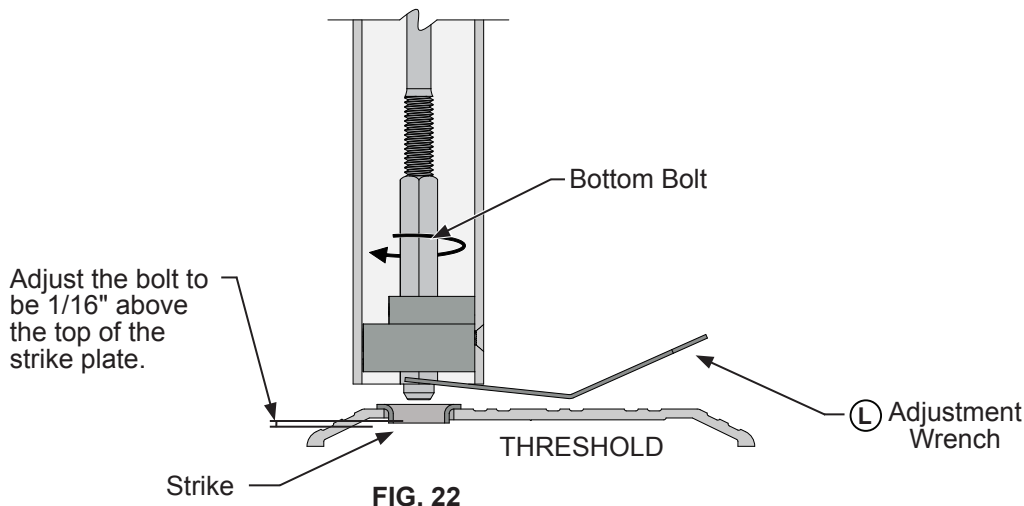

FIG. 22
1. Depress the push bar to assure free movement of the rod and case assembly. Both upper and bottom bolts should activate to the open position. The upper bolt should drop into the open position. **(Fig. 22)**
2. Depress the push bar, The bottom and upper rods will retract. With the rods in this position adjust the bottom bolt using the adjustment wrench (L) included. (Fig. 22)